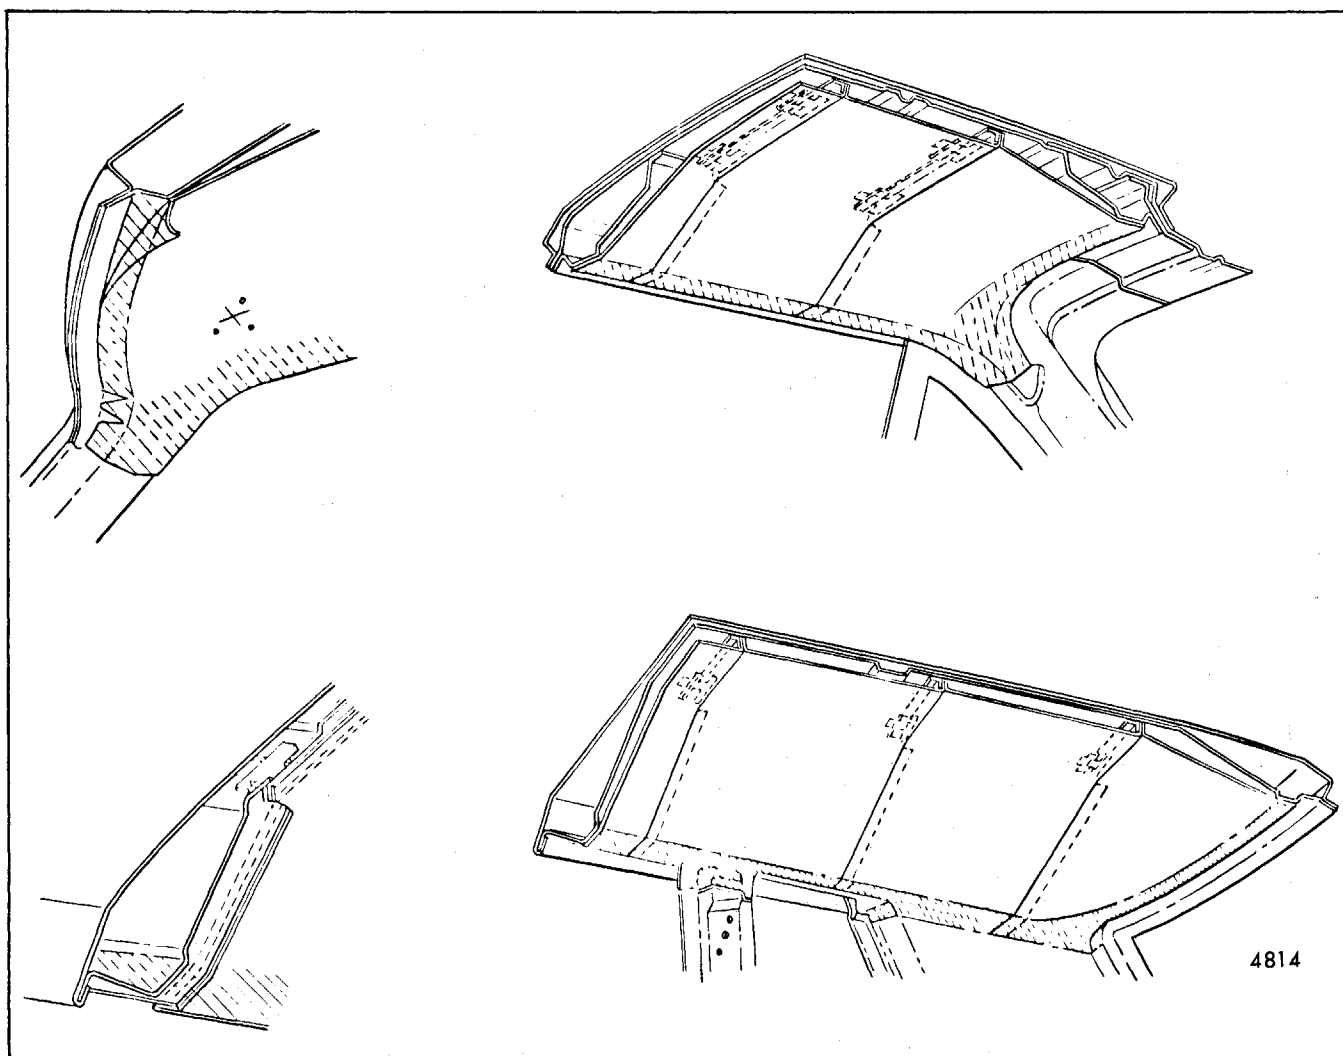

Fig. 8-2-Typical Trim Cement Application to Headlining
4. Apply an approved nonstaining trim cement to headlining surface at windshield, side roof rail, shoulder belt anchor locations and back window or back body opening (see Fig. 8-2).